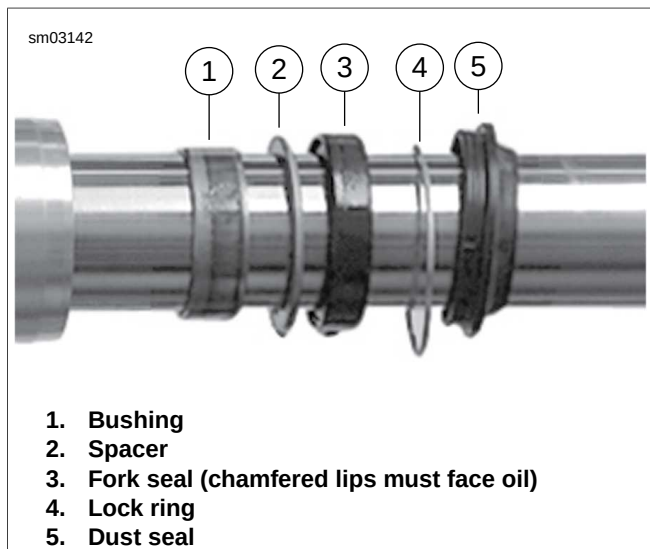

Figure 2-182. Fork Tube Shown Installed In Order of Installation
1. See Figure 2-182. Use sleeve from fork seal driver and install chrome dust cover (not shown) and components onto fork slider in order shown.